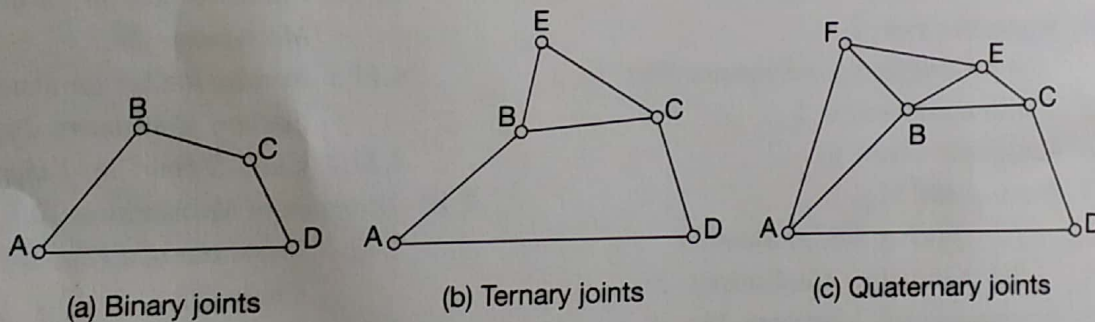

Fig.1.1 Type of kinematic joints
1. *Binary joint*: In a binary joint, two links are connected at the same joint by a pin, as shown in Fig.1.1(a).
2. *Ternary joint*: In a ternary joint, three links are connected at the same joint by a pin. It is equivalent to two binary joints. In Fig.1.1(b), joints B and C are ternary joints and others are binary joints.
3. *Quaternary joint*: When four links are connected at the same joint by a pin, it is called a quaternary joint. One quaternary joint is equivalent to four binary joints. In Fig.1.1(c), joint B is a quaternary joint; A, C, E, F are ternary joints; and D is a binary joint.